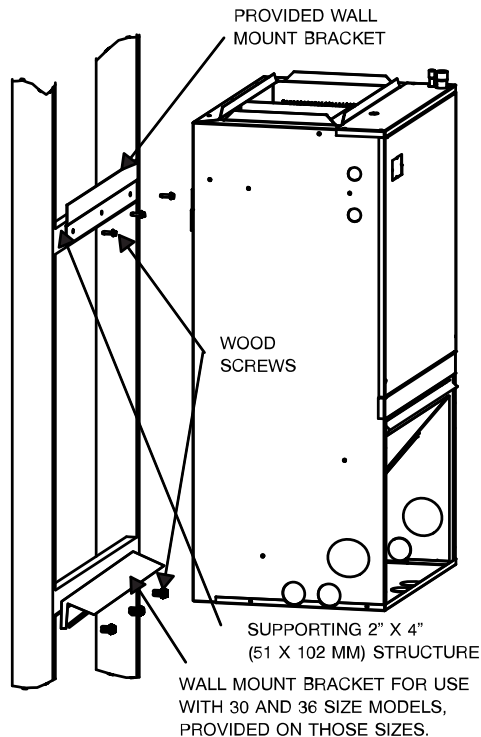

Fig. 4 – Wall Mount Installation
The fan coil comes standard with a wall mounting bracket and fan coil mounting bracket. Refer to Fig. 4 for more detail.
3. Lift the fan coil above the wall mounting bracket and attach the unit to the installed bracket. Refer to Fig. 4.